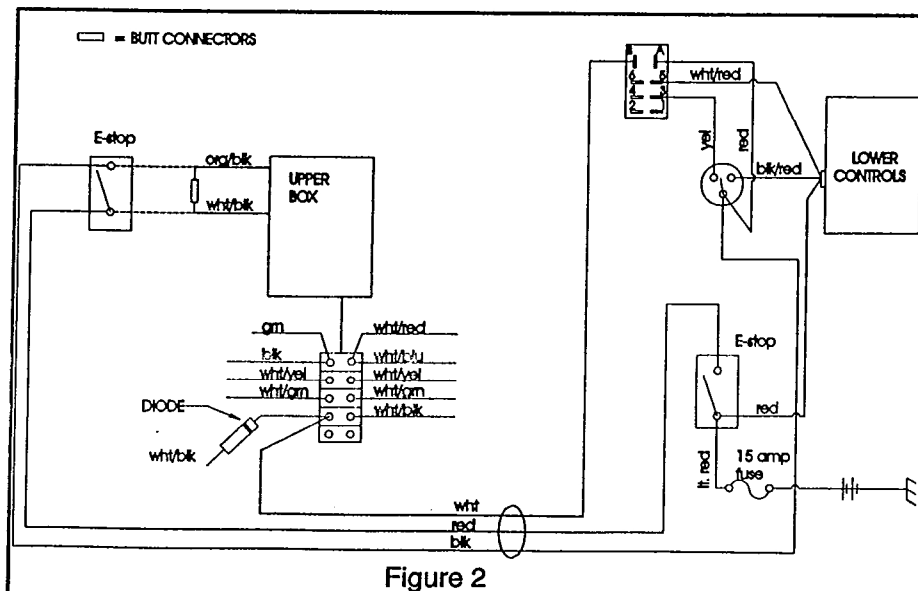

Figure 2
9. Using Butt Connector (#029620-002), connect the wht/blk wire to 3 amp diode item (#029825-002). Be sure the diode is in the direction shown in figure 2.
16. Attach the white wire from the 3-conductor cable to terminal B on the relay using Relay Connector (#029615-002). Figure 2.